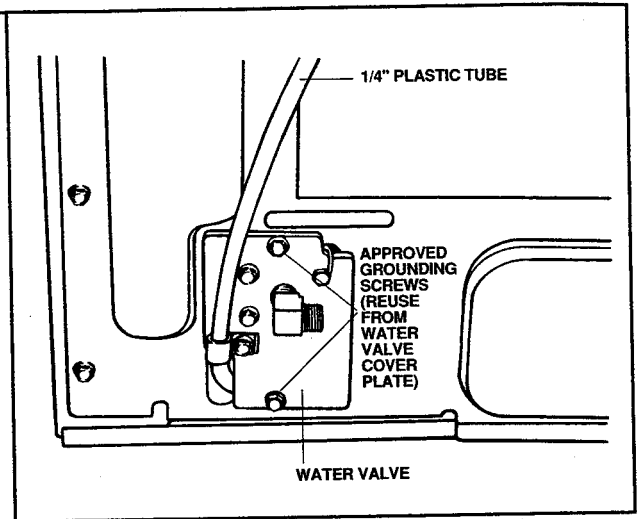

Figure 23
- d. To insure the water valve is electrically grounded, reuse of the two (2) screws saved when removing the water valve cover plate *is required*. Secure the water valve to the cabinet frame by reusing the cover plate screws. See Figure 23.